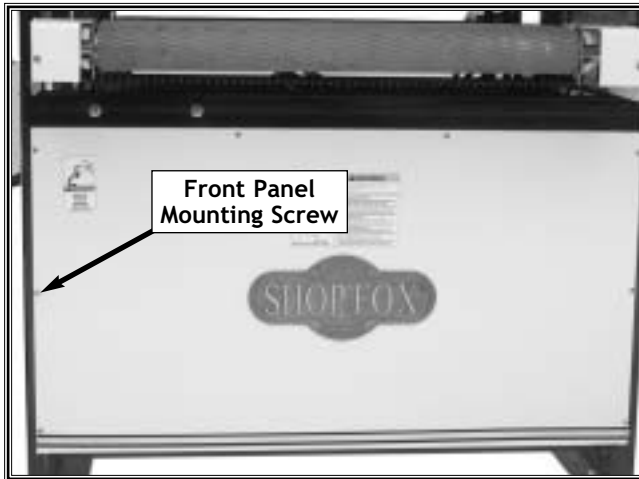

Figure 36. Front panel and mounting screws.
2. Remove eight front panel mounting screws and remove the panel. See Figure 36.